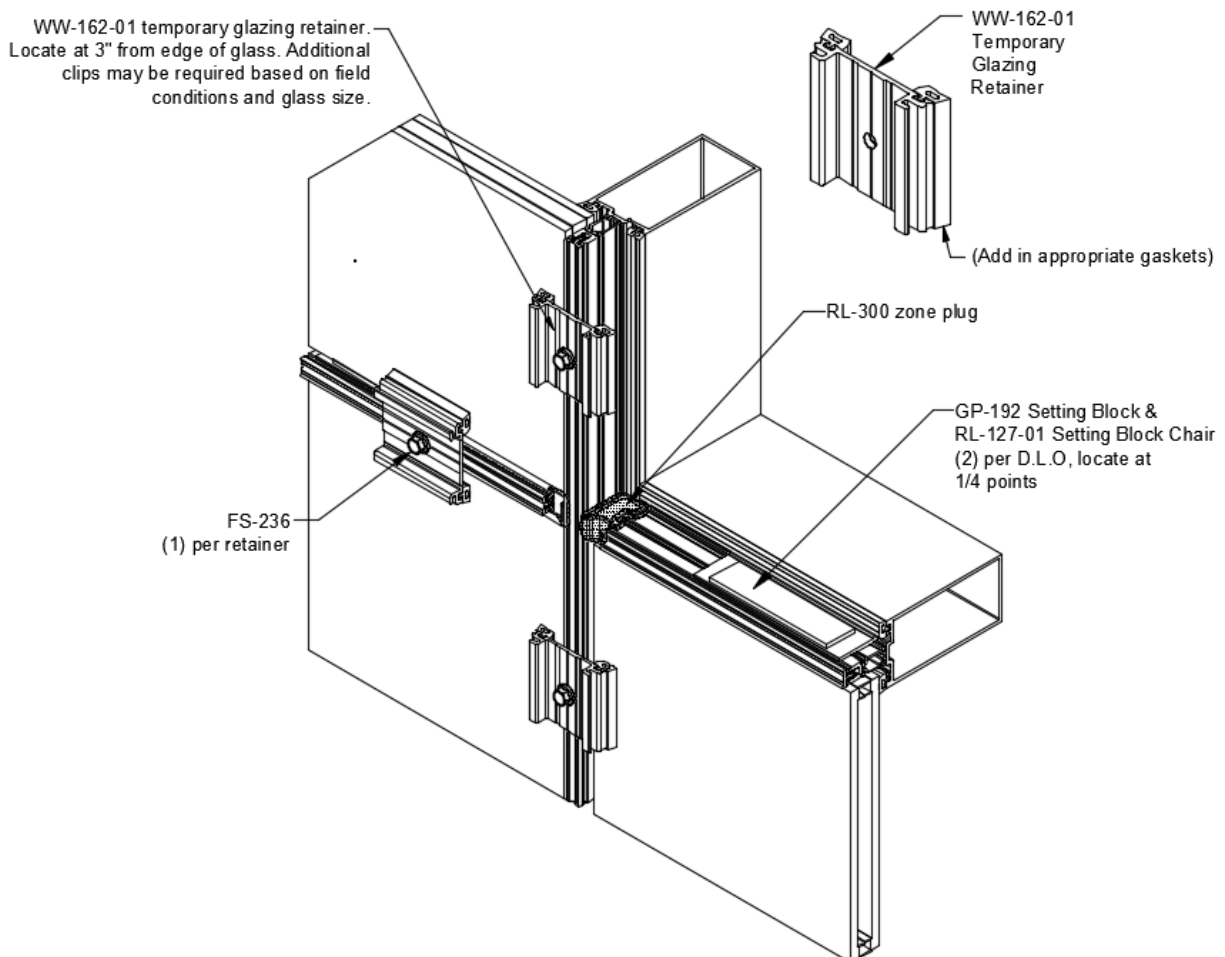
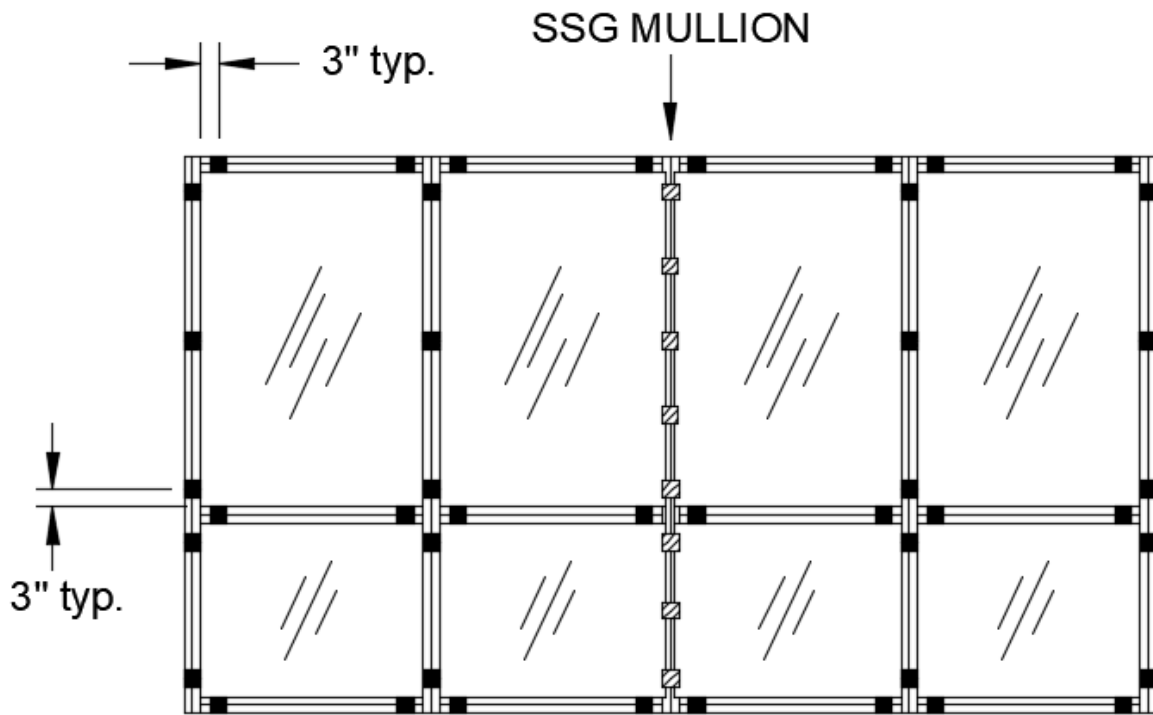

Figure 62: Glazing Instructions
Figure 63: Location of Temporary Glazing Retainers (Typ.)
- Full length Pressure Plates must be installed if severe weather or high wind loads are anticipated. See *Figure 62* and *Figure 63*.